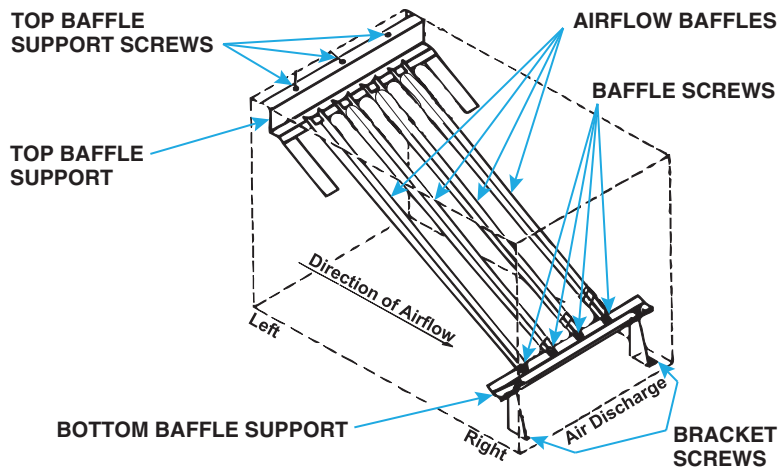

Figure 52. Airflow Baffles
- b. For standard (not high CFM) furnaces, remove baffle screws (see Figure 52) and lift each airflow baffle slightly and slide forward. Remove all baffles from heat exchanger.